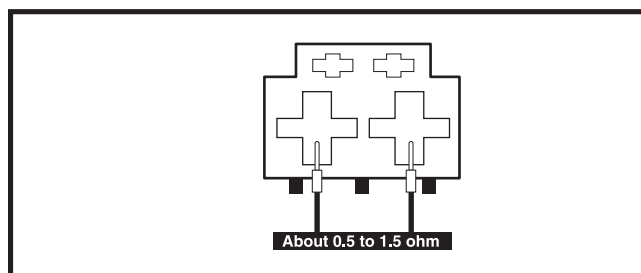
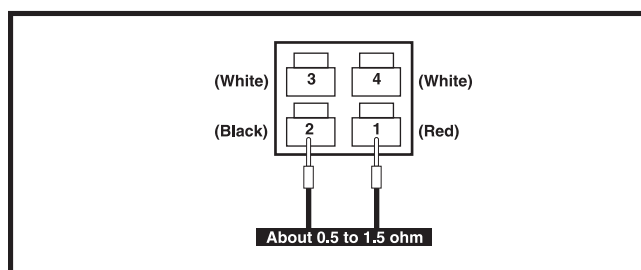
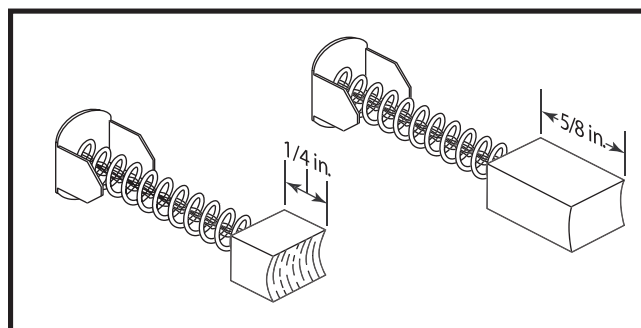

Figure 34. Connector 13b
Figure 35. Connector 8a
Figure 36. Motor Brushes
1. Unplug connector 13b from the power module (4). See **diagram 2**.
2. Measure resistance across pin 1 and pin 2 on connector 13b. See **figure 34**.
- If your multimeter indicates about 0.5—1.5 ohms, then replace the power module (4) and retest the system.
4. Measure resistance across pin 1 (red) and pin 2 (black) on connector 8a. See **figure 35**.
- If your multimeter indicates about 0.5—1.5 ohms, then replace left motor interface harness (13) and retest the system.
- If the brushes are worn below 0.25 in. or they are physically damaged, then replace the brushes and retest the system. See **figure 36**.
- If the brushes are not worn below 0.25 in. or they are not damaged, then replace the left motor (8) and retest the system.